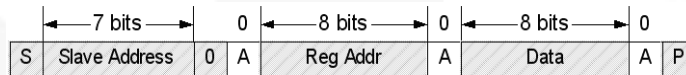
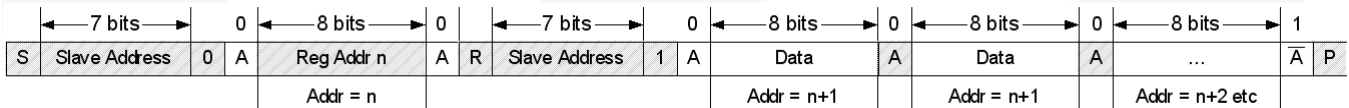

Figure 54. Single-Byte Write Transaction
Figure 57. Multi-Byte (Sequential) Read Transaction
Figure 54 – Figure 57 outline the sequences for data read and write. Bus control is signified by the shading of the packet, defined as Master Drives Bus and Slave Drives Bus.
**Table 8. Bit Definitions for Figure 54 – Figure 57**
The slave address, Reg Addr address, and the first data byte are transmitted to the FAN54020 in the same way as in a byte write (Figure 54). However, instead of generating a Stop condition, the master transmits additional bytes written to consecutive sequential registers after the falling edge of the eighth bit. After the last byte is written and its ACK bit received, the master issues a STOP bit. The IC contains an 8-bit counter that increments the address pointer after each byte is written.
### Sequential Read (Figure 57)